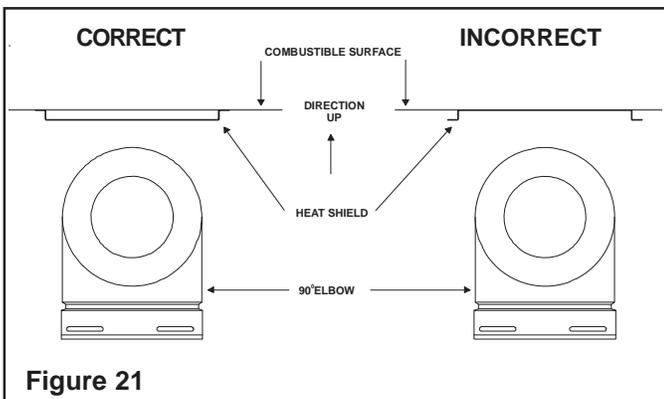

Figure 21
2. Fasten the shield in place using the four pilot holes provided in the part. The shield should be oriented such that the 13 1/8 inch dimension (longest dimension) is running in the same direction the elbow is pointing. The shield should be centered directly above the elbow, and positioned so that it creates a 1/2 inch airspace between the shield and the combustible surface. See Figure 21.